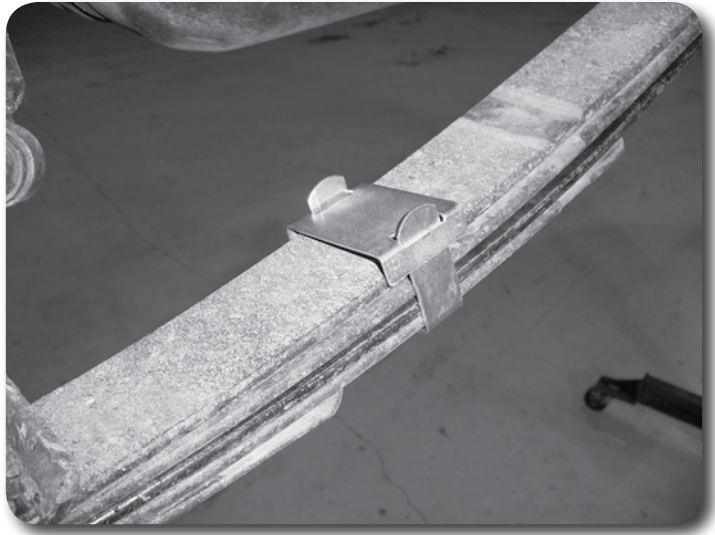

Figure 6
10. Remove the C-clamps from the leaf pack and ensure the individual leafs are all inline with each other. Install the provided bend-over style clamps on the leaf pack (Figure 6). Install one clamp on each side of the center pin about 12" from the center pin. Bend the ends of the clamps over to secure them to the spring.